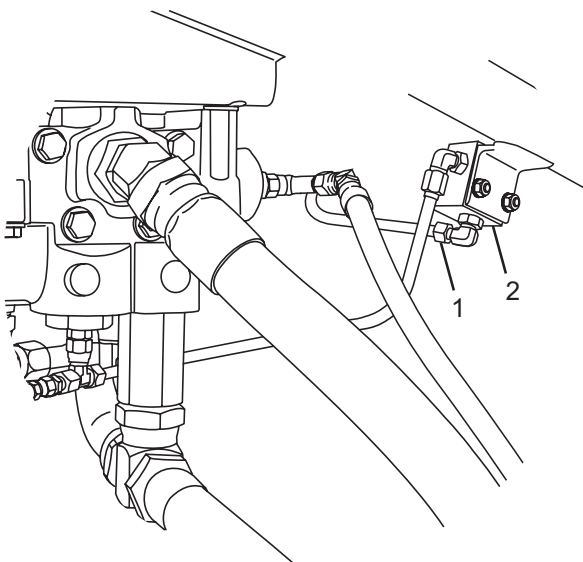
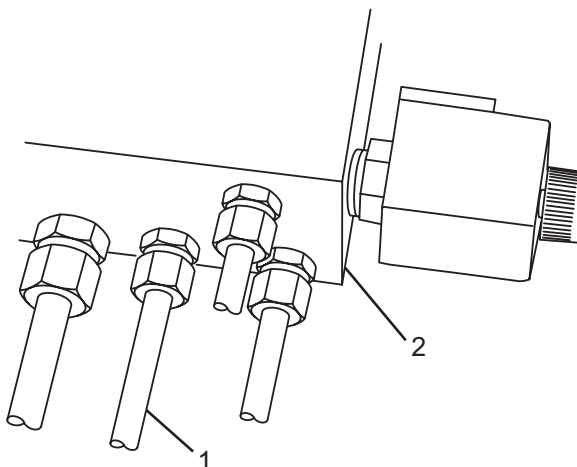

Figure 41
Figure 42
1. Remove the outlet line (Figure 41, Item 1) from the individual N.O. valve (Figure 41, Item 2) or remove the outlet line (Figure 42, Item 1) from the N.O. valve in the combo block (Figure 42, Item 2).